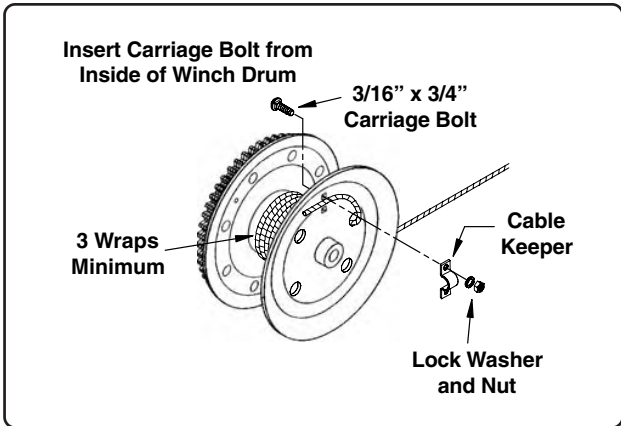

Fig. 30
4. Clamp the cable to the outside of the drum with the cable keeper and secure using two (2) 3/16" x 3/4" carriage bolts, lock washers and non-lock nuts (make sure the carriage bolt heads are on the inside of the drum, See Fig. 30).